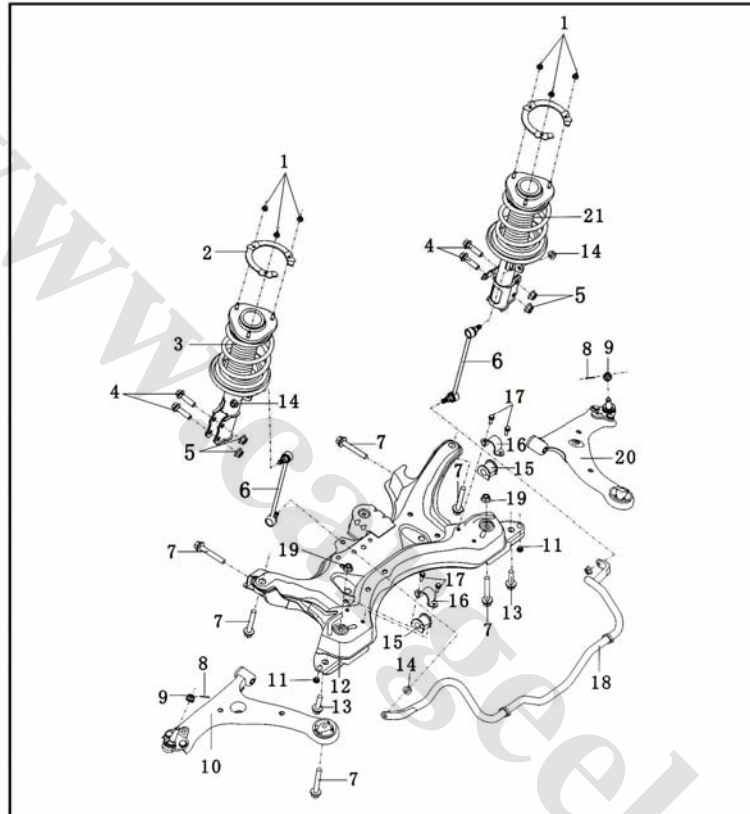

Fig. 2-1
1. Front axle and front suspension, Fig. 2-1.
The front suspension of LF620 sedan is a McPherson independent suspension. Refer to Fig. 2-1 for its structure.